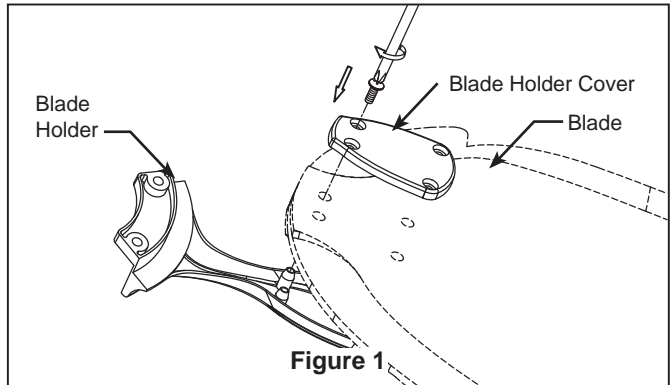

Figure 1
1. Remove one of the three screws in the support-bracket. Slightly loosen the remaining two screws. Assemble the adapter-switch housing assembly to the housing support bracket using the two key slots in the adapter-switch housing. Replace the third screw and securely tighten all three screws. (Figure 1)